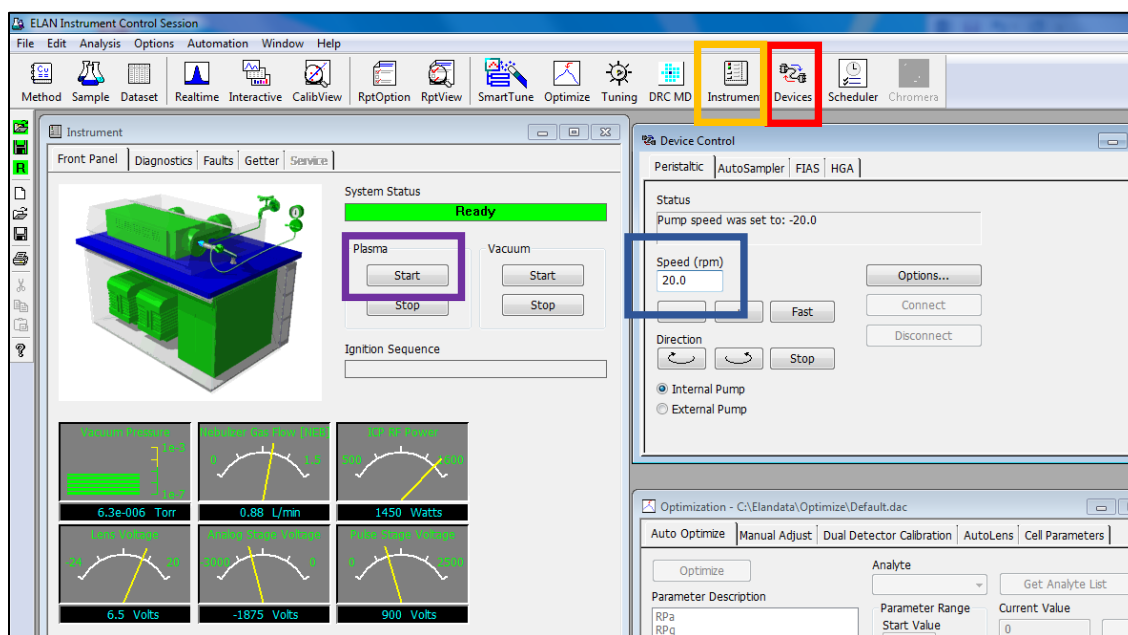

Figure 9: Instrument and Device controls.
- c. Select the Device tab from the Elan software (**Figure 9**, red rectangle).
- d. Enter “20.0” in the box for Speed (rpm) (**Figure 9**, blue rectangle). This will start the pump which will pull the 2% HNO_3 into the sampling lines.
- a. Select the Instrument tab (**Figure 9**, orange rectangle). If the System Status displays the green ready bar (**Figure 9**, green bar) the instrument is ready to light the plasma.
- b. Click the Start button (**Figure 9**, purple rectangle) to light the plasma.